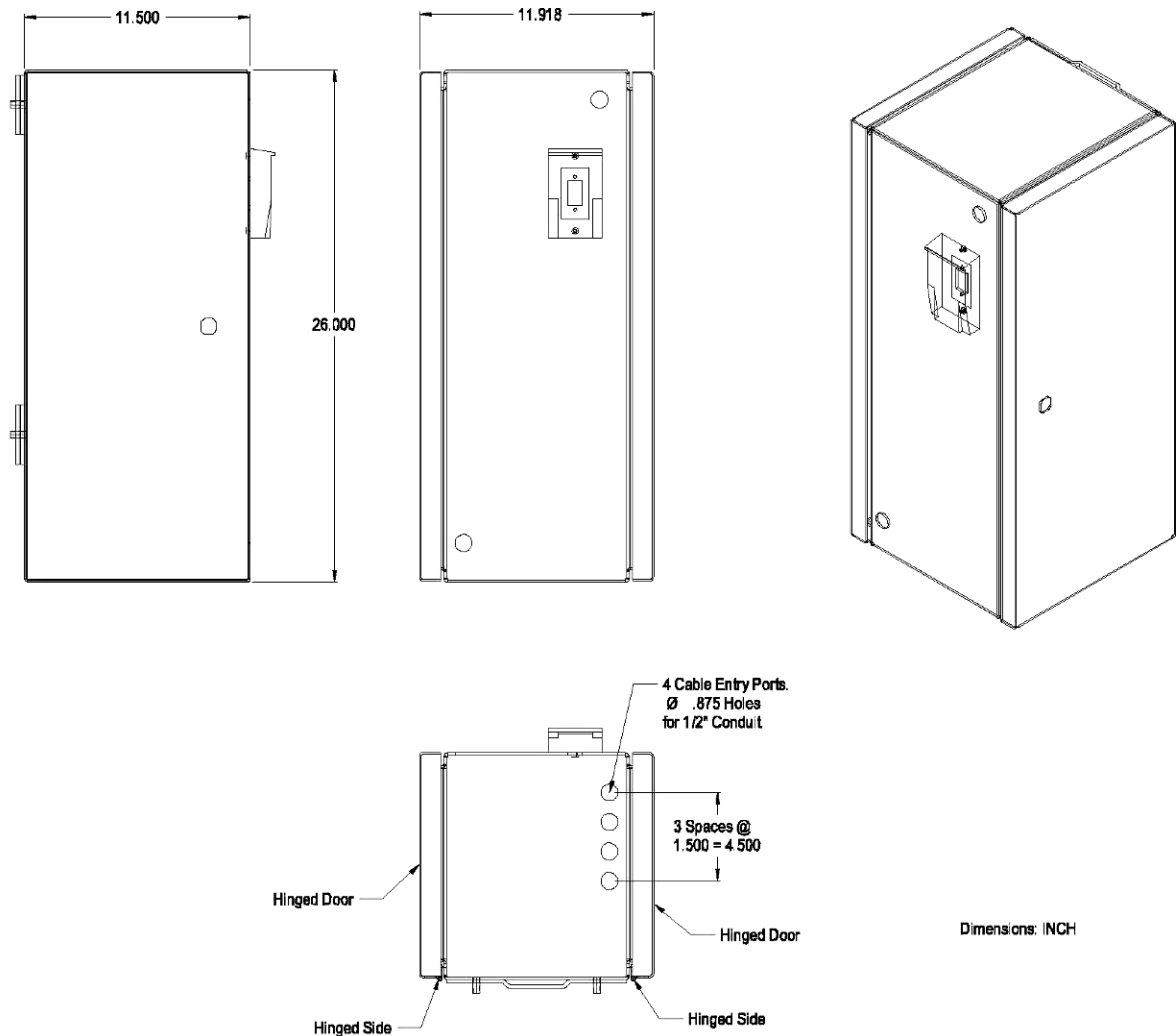

Figure 2: XUPS-600/1000-6969 Dimensions
1.4 OVERALL DIMENSIONS – The XUPS-600/1000-6969 cabinet is 26" (66 cm) H x 11.9" (30.3 cm) W x 11.5" (29. cm) D and weighs 161 lbs. (73 kg) with four batteries (see Figure 2).